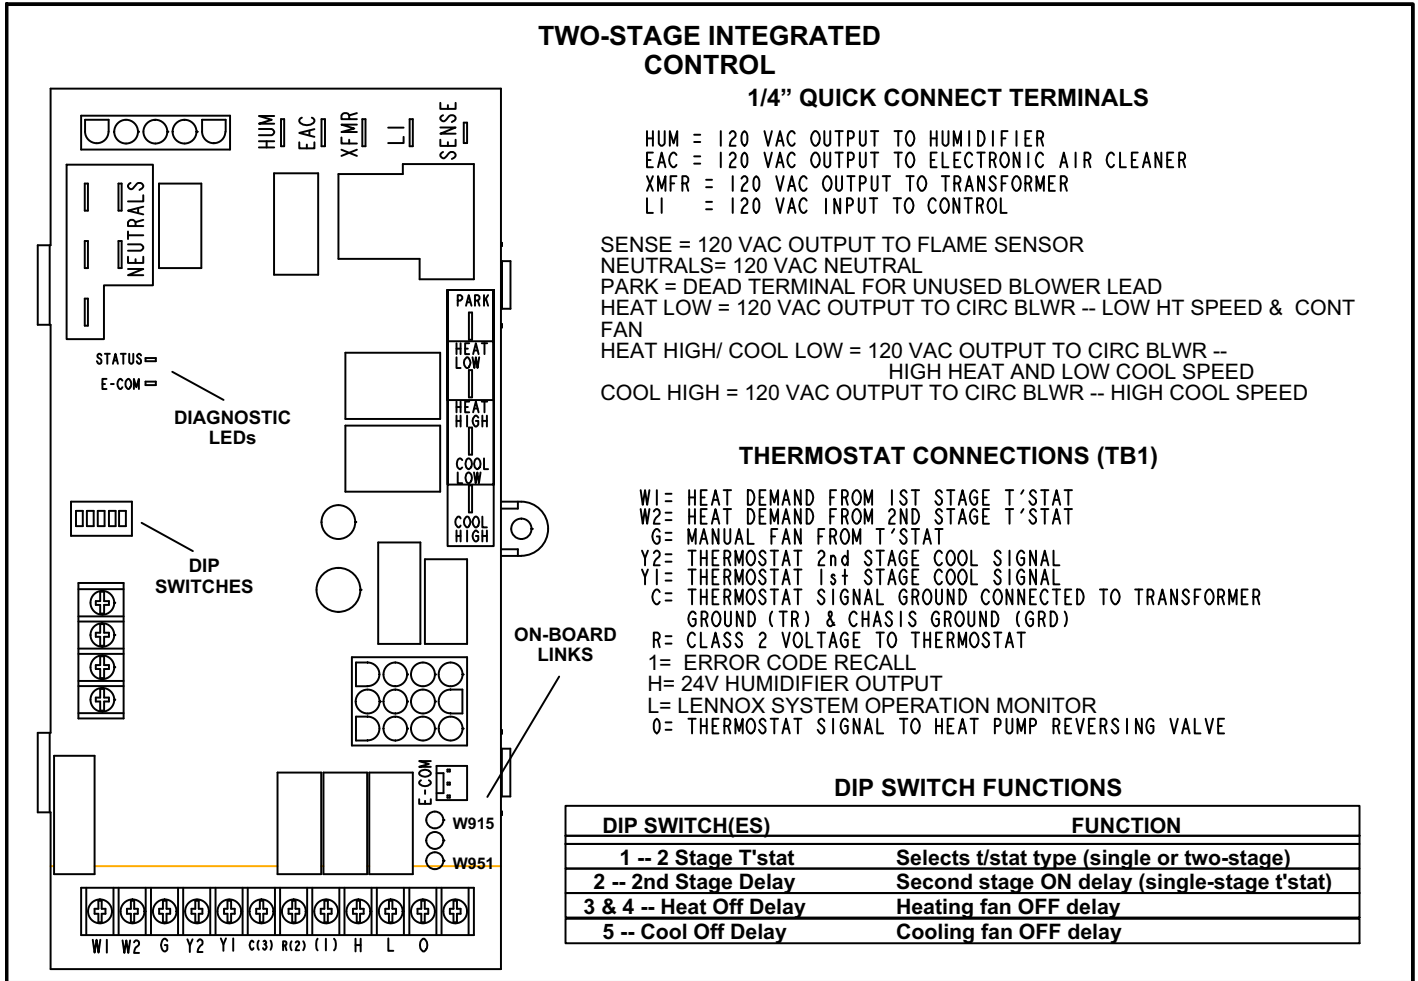

FIGURE 5
EL280DF units are equipped with the Lennox two-stage integrated SureLight® control. The system consists of a ignition / blower control (figures 5 and 6) with control pin designations in tables 2 and 3 and an ignitor. The control and ignitor work in combination to ensure furnace ignition and ignitor durability. The SureLight integrated control, controls all major furnace operations. The control features a red LED light, for furnace status and troubleshooting. The LED flashes in "X" + "Y" codes. For example using table 4 under "PRESSURE SWITCH CODES", if the red LED flashes 2 times, then off for 2 seconds then flashes 3 times, the low pressure switch is failed open. The control also has two 120 volt accessory terminals rated at (1) one amp each and one 24 volt accessory terminal rated at 0.5 an amp.
The control can be utilized in two modes: SINGLE-STAGE thermostat or TWO-STAGE thermostat. The thermostat selection is made using a dip switch (figure 5) and must be positioned for the particular application. The dip switch is factory set to "OFF" for use with a two-stage thermostat with two stage heat. Re-position dip switch to "ON" for use with a single stage thermostat with two stage heat.